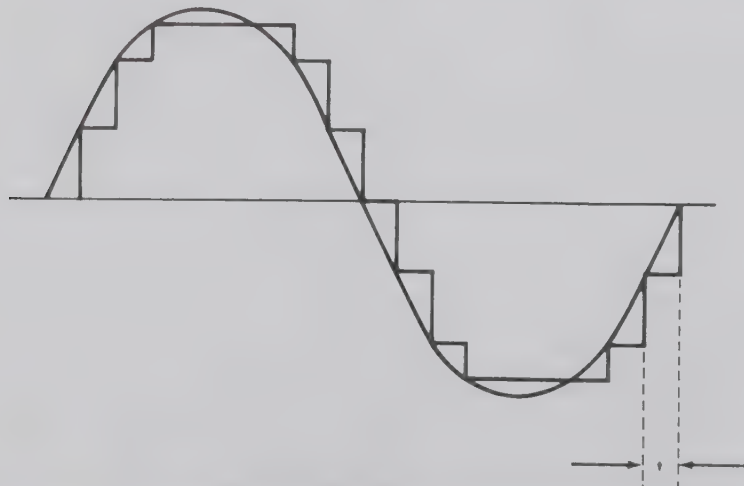

Figure 2.6-10 Diagram of a Sinewave Constructed From Samples
2.6.19 A sinewave can be constructed from a number of amplitude samples along the wave. This series of sample numbers is saved in ROM. Then it can be recalled by stepping through (scanning) the ROM. The recalled numbers are converted to a series of voltage levels resembling a stair-step approximation of the original signal. The holding time of each sample appears as high-frequency distortion. This can be eliminated by proper filtering. The holding time or interval, $J=1/f_s$, is set by a sampling theorem (Nyquist's interval) where f_s (sampling rate) is at least greater than twice the highest frequency signal. See Figure 2.6-10 for a sinewave diagram.